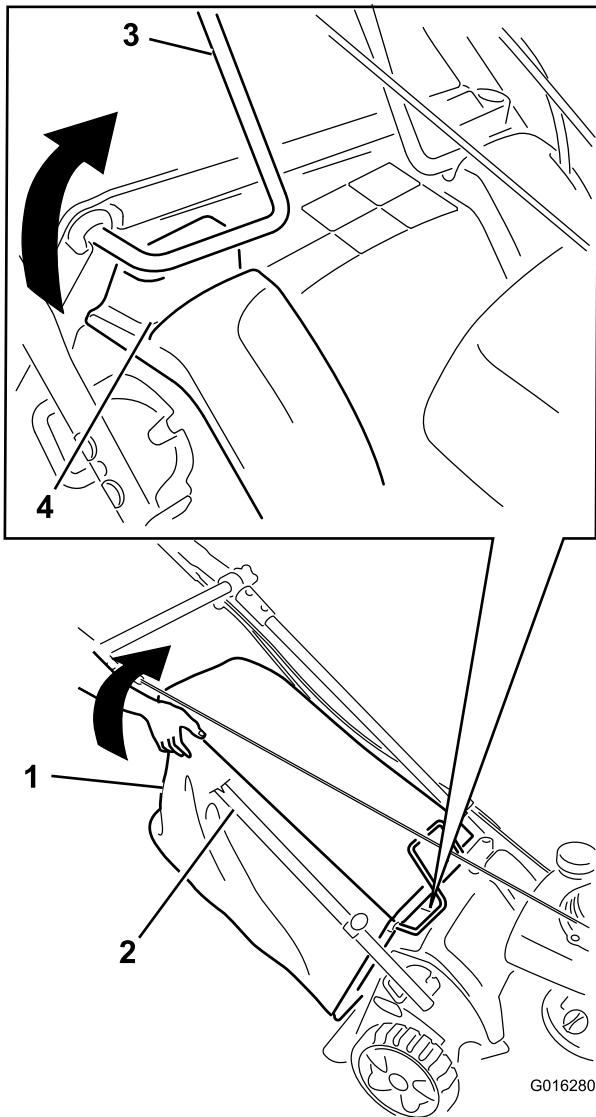

Figure 57
5. While the engine is running, lift up the upper right rear corner of the grass bag until the wire-bag frame at the upper right front of the grass bag is completely out of the right-hand slot (Figure 57). **The engine should stop.**